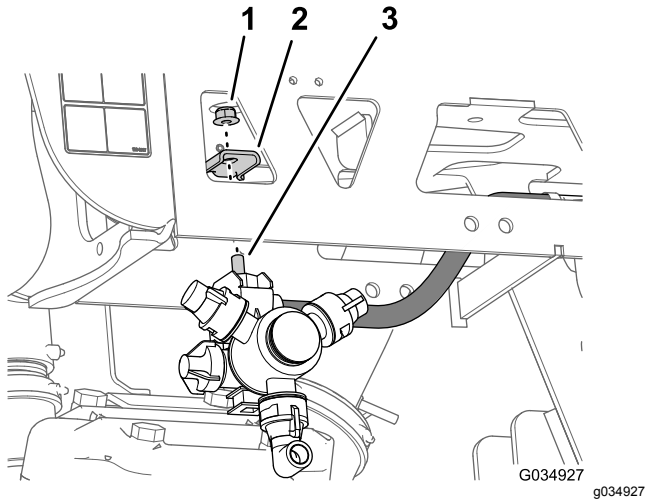

Figure 82
- Repeat steps 2 through 7 for the other hose and nozzle assembly at the other outer truss (Figure 79 and Figure 82).
1. Align the hex-head bolt (5/16 x 3/4 inch) of the sprayer nozzle through the hole in the nozzle mount (Figure 82) and loosely secure the nozzle to the mount with a flange locknut (5/16 inch) that you removed in steps 1 or 4 of 12 Removing the Sprayer-Nozzle Hoses for the 3-Section System (page 31).